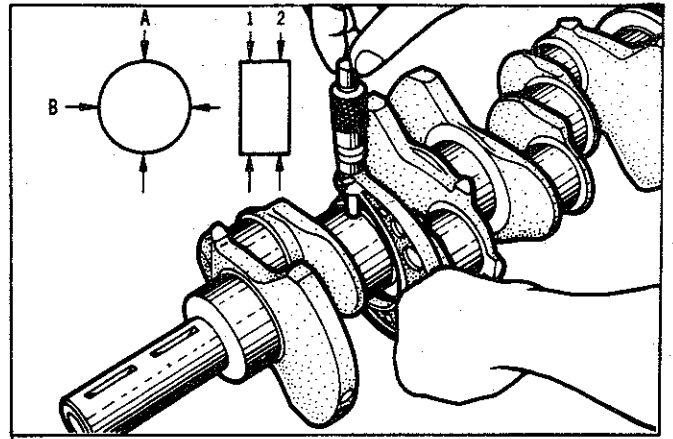

Fig. 66—Measuring crankshaft journal diameter
(3) Measure the crankshaft journal diameters as shown in Fig. 66. If they are excessively out of round, tapered or worn they must be re-ground to the next undersize.
(4) When grinding the crankshaft, care must be taken to ensure the crankshaft journal fillet radii are 2,5 mm (0.098").
(1) Measure the outside diameter of the main and connecting rod journals, Fig. 66.